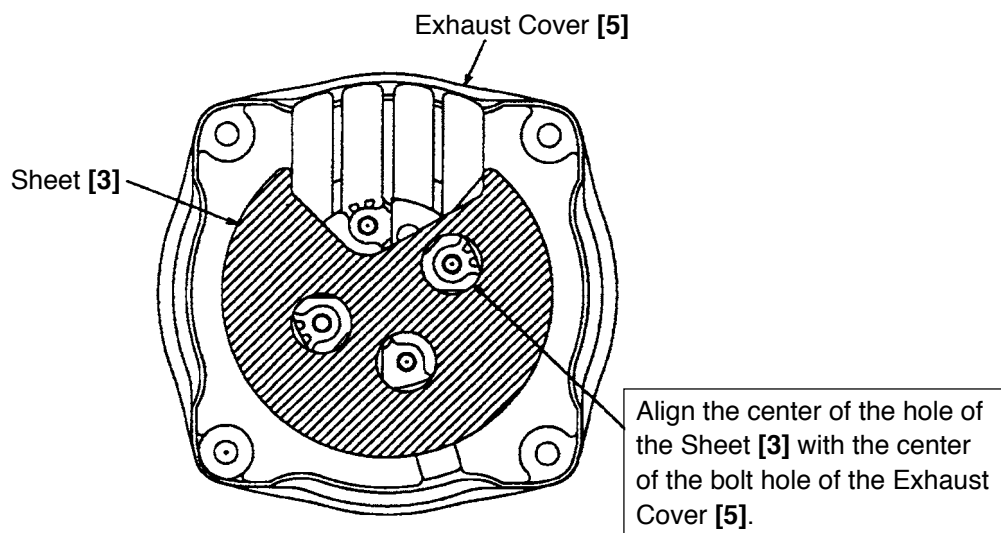

Fig. 13
- Mount the Sheet [3] in the direction as shown in Fig. 13 aligning the center of the hole of the Sheet [3] with the center of the bolt hole of the Exhaust Cover [5]. If not aligned, abnormal exhaust noise may be heard.